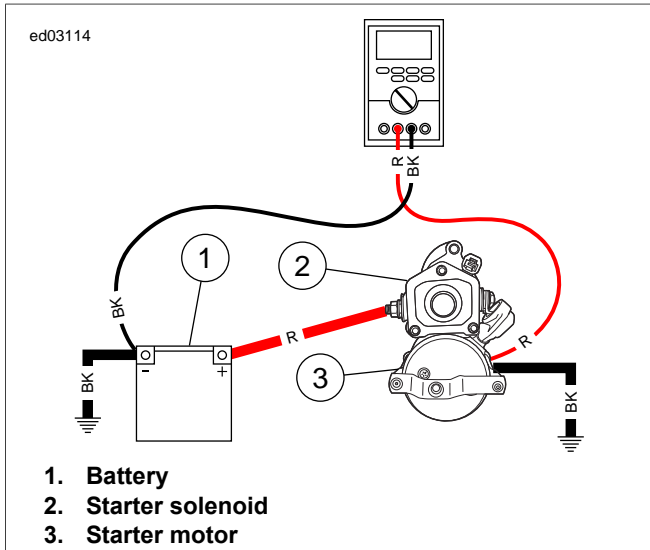

Figure 1-14. Starter Ground Circuit
3. See Figure 1-14. Move black meter lead to negative battery post and red meter lead to starter case. Crank starter. Observe voltage drop.